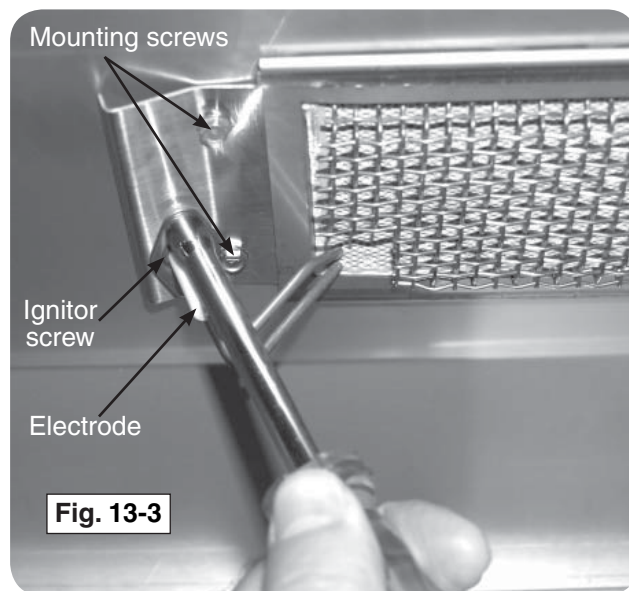

Fig. 13-3
- a. Remove the backburner electrode mounting screw (1/4" hex) (see Fig. 13-3) and loosen the electrode. Draw the wire attached to the electrode down through the slot in the bottom of the bracket so that the left side of the backburner is free to be removed.
- b. Remove the backburner mounting screws (1/4" hex) located at the left end of the backburner assembly (see Fig. 13-3).